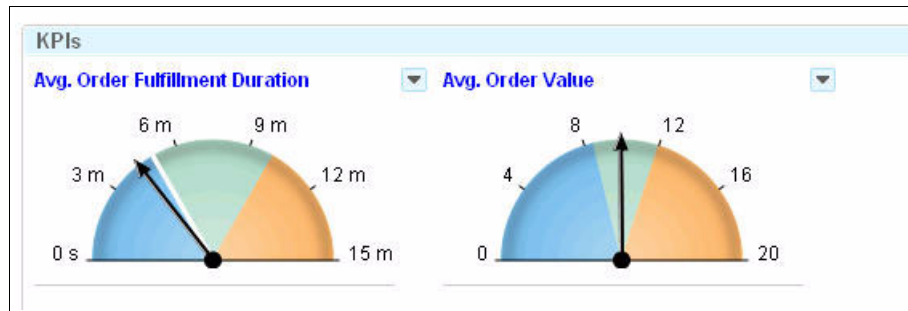

Figure 8-98 KPIs
15. From Figure 8-98, we see that we are within our target for the end-to-end processing time for orders, but we are pretty much on target for our average value (the average is 9.95 and our target is 10).